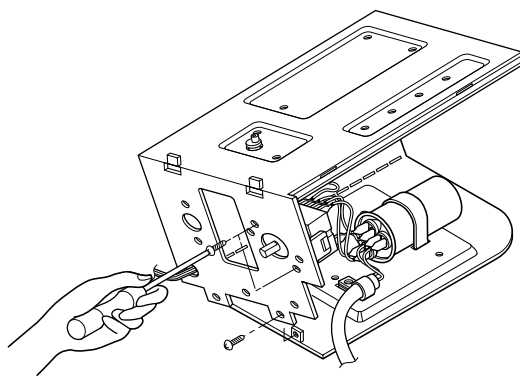

Figure 14
5. Remove the rotary switch. (See figure 14)